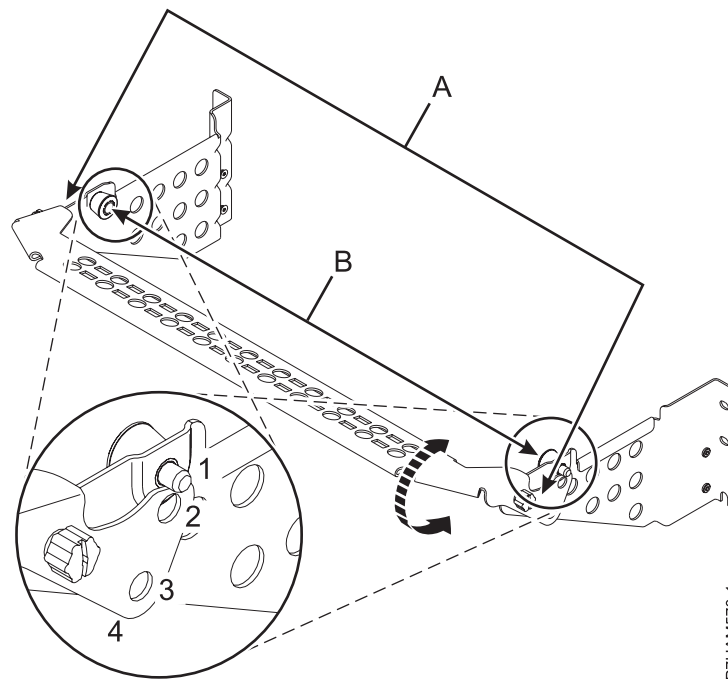

Figure 10. Positions of the cable management bracket rotation
- Use the cable management bracket to secure the 5802 or 5877 expansion unit to the rack if you intend to provide extensive organization for the cables and cords connecting to the expansion unit. The cable management bracket contains a shelf that rotates into the following positions, as shown in Figure 10.
- The shelf is rotated up to the highest position (1) to permit service of the 5802 or 5877 expansion unit. Since this position requires that the top edge of the shelf side brackets (A) be rotated fully below the plungers on the stationary arms (B), the shelf is not locked in this position.
- The shelf is rotated to a level position (2) when no hardware service is being performed on the 5802 or 5877 expansion unit or adjacent hardware. The shelf side brackets (A) contain holes into which the plungers on the stationary arms (B) are inserted, enabling the shelf to lock in this position.
- The shelf is rotated down to the next lower position (3) to permit service of hardware installed in the space directly above the 5802 or 5877 expansion unit. The shelf side brackets (A) contain holes into which the plungers on the stationary arms (B) are inserted, enabling the shelf to lock in this position.
- The shelf is rotated down to the lowest position (4) if additional clearance space is needed to close the rear door of the rack. Since this position requires that the bottom edge of the shelf side brackets (A) be rotated fully above the plungers on the stationary arms (B), the shelf is not locked in this position.